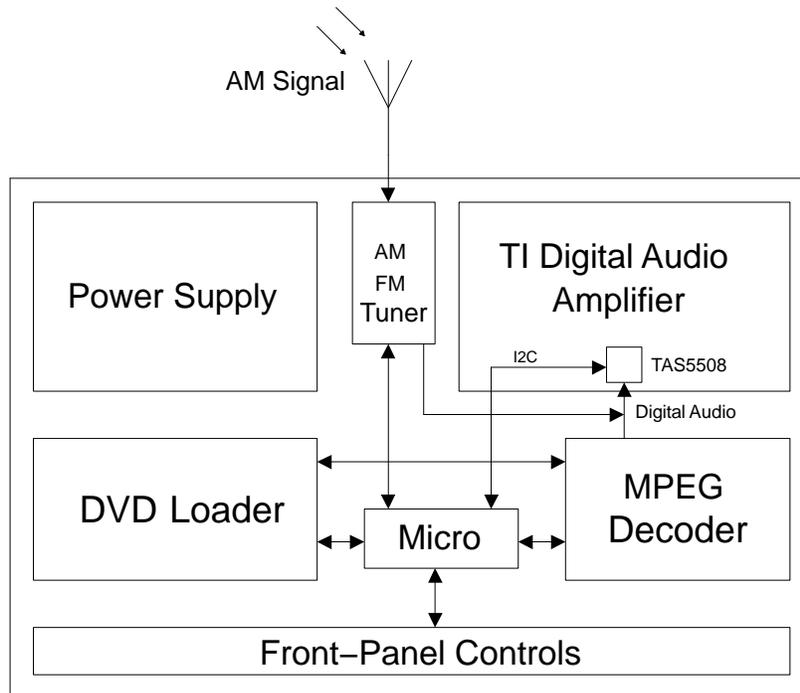

Figure 1. Typical DVD Receiver with TI Digital Audio Amp (TAS5508) and AM Tuner
Figure 1 shows a typical DVD receiver with a TI PurePath Digital (TM) audio amplifier with TAS5508 and AM tuner. Assuming that the TAS5508 is automatically detecting the input sample rate (from AM tuner or ADC), the basic system algorithm for using the TAS5508 AM Avoidance scheme is: